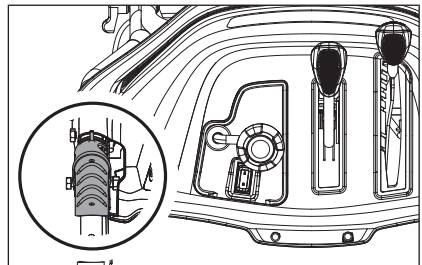

Figure 42
4. Reinstall connecting lever rod to the connecting lever base then install the clip (E) and washer (F). Make sure the spring (G) is loaded on the correct side as shown earlier. (Fig. 42)
6. Tighten the nut from earlier (C).
1. Locate the auger control cable, connected to the auger control lever on the left side (from behind the snowblower). (Fig. 42)